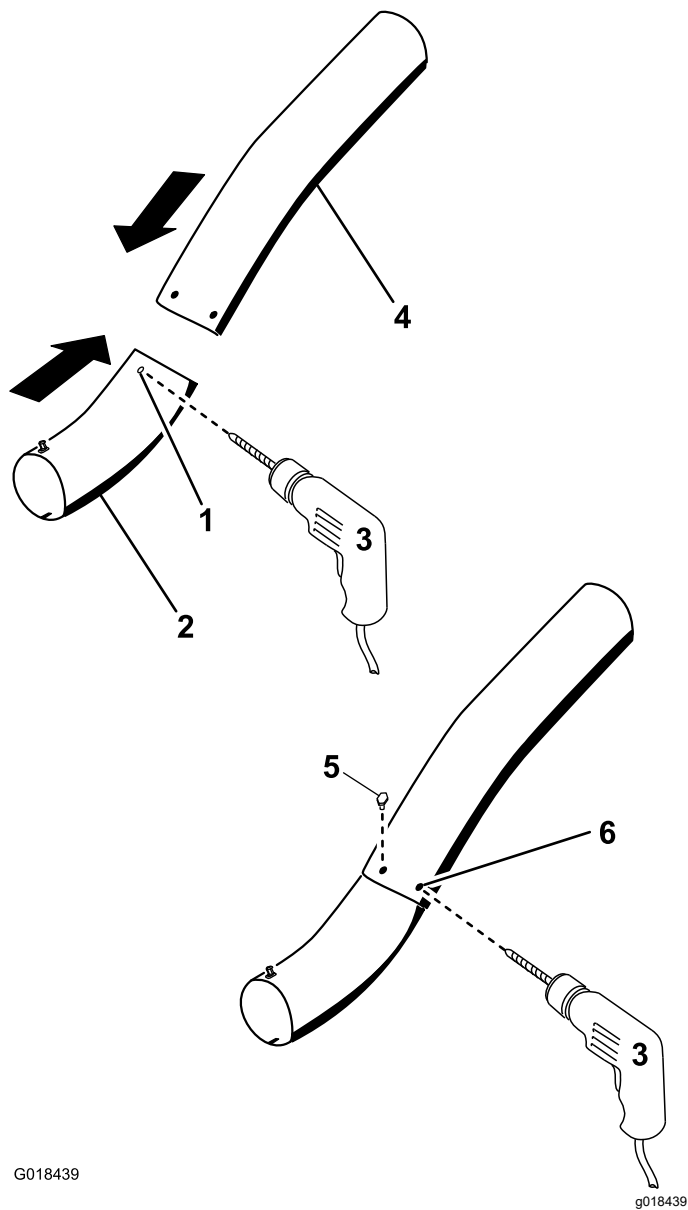

Figure 32
12. Using the existing holes in the upper tube as a template, drill 2 holes, 6.5 mm (1/4 inch) diameter, through the dimples on the lower tube (Figure 32).
15. Install the washers (1/4 inch) onto the bolts (Figure 32).
16. Using a hex key tool, install the screws (1/4 x 3/4 inch) and washers (1/4 inch) from the inside of the lower tube and through the existing holes in the upper tube (Figure 32).
17. Secure the tubes together with the nuts (1/4 inch) as shown in Figure 32.